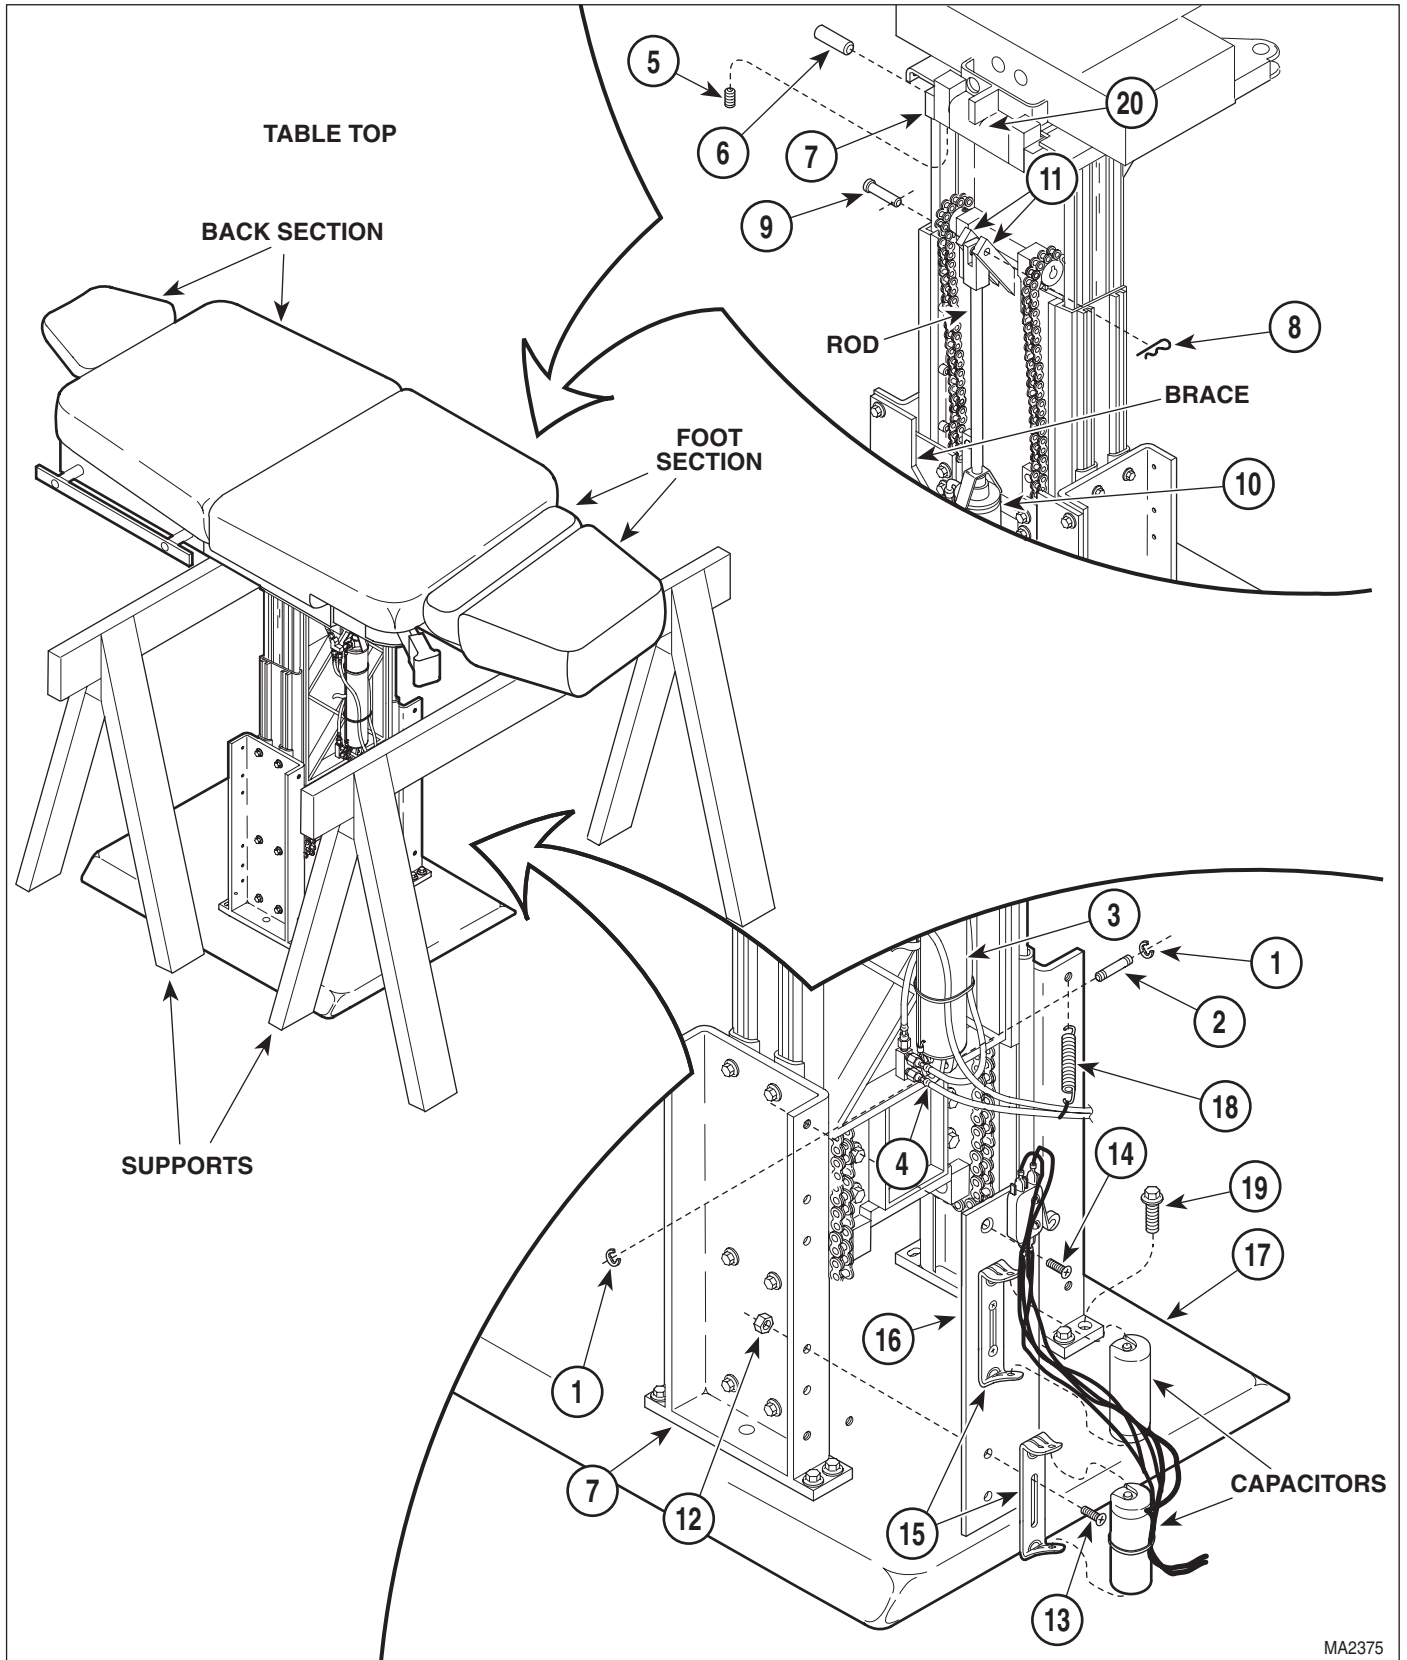

Figure 4-34. Base Slide Assembly Removal / Installation
- (11) Place supports (See Figure 4-34) under foot section and back section of table top, making sure weight of table top is being supported by supports. If necessary, plug table power cord
- (12) Remove two E-rings (1, Figure 4-34), clevis pin (2), and separate tilt cylinder (3) from bracket (4).
- (13) Loosen four setscrews (5). Remove two tilt pivot pins (6) from base slide assembly (7).
- (1) With the help of an assistant, install base slide assembly (7, Figure 4-34) on base weldment (17), making sure base cylinder (10) gets inserted between brace and base slide assembly.
- (2) Secure base slide assembly (7) on base weldment (17) with eight screws (19).
- (3) Connect spring (18) to base slide assembly (7).
- (4) Install auto return bracket assembly (16) and two capacitor mounting brackets (15) on base slide assembly (7) and secure with one screw (14), four screws (13), and five nuts (12).
- (5) Install capacitors (Refer to para 4.19).
- (6) Install rod end of base cylinder (10) on bracket (11) and secure with clevis pin (9) and hitch pin clip (8).